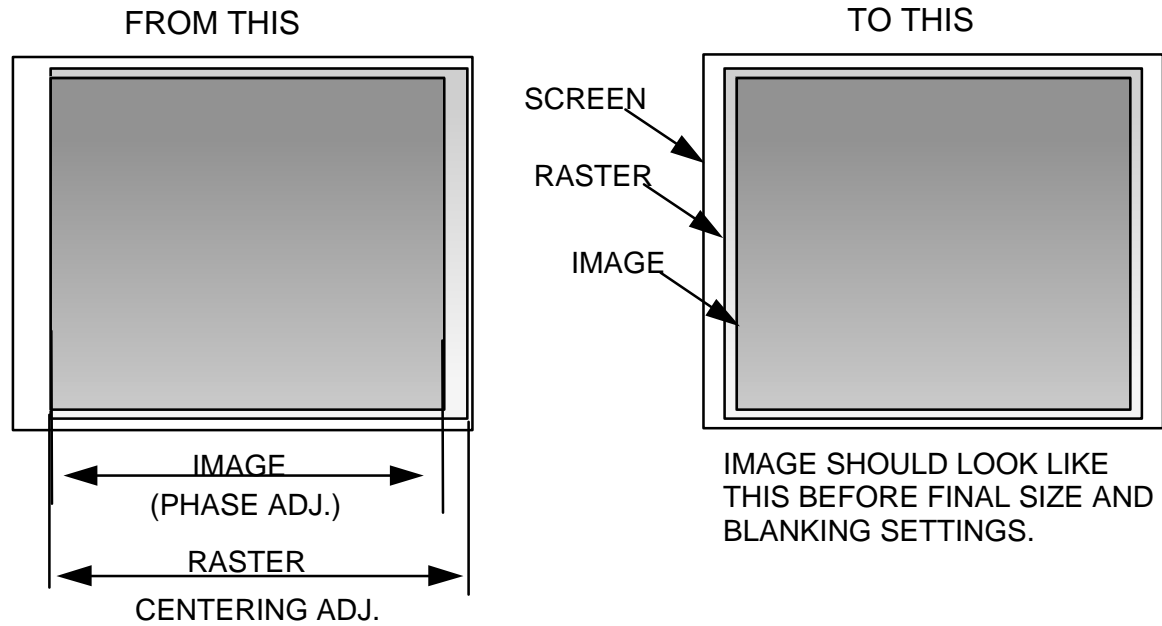

Figure 5-3. Phase, Size and Centering adjustments.
3. Use the arrow keys to increase the brightness level to view the entire raster and image (see *Figure 5-3*). Press Escape when finished.
5. Verify that the input image and raster are smaller than the screen (refer to *Figure 5-3*). If not, access the Size adjustment from the Geometry menu and use the arrow keys to size the image just smaller than the screen size. Press Escape or Enter when finished.
3. Use the arrow keys and adjust the horizontal and vertical phase so that the image folds over on either side or at the top and bottom. Center the input image on the raster (see Figure 5-3).
5. Use the arrow keys and position the Green raster vertically and horizontally so that it is centered on the screen (*Refer to Figure 5-3*).
3. Use the arrow keys and adjust the size of the image to the screen horizontally and vertically (*refer to Figure 5-3*).